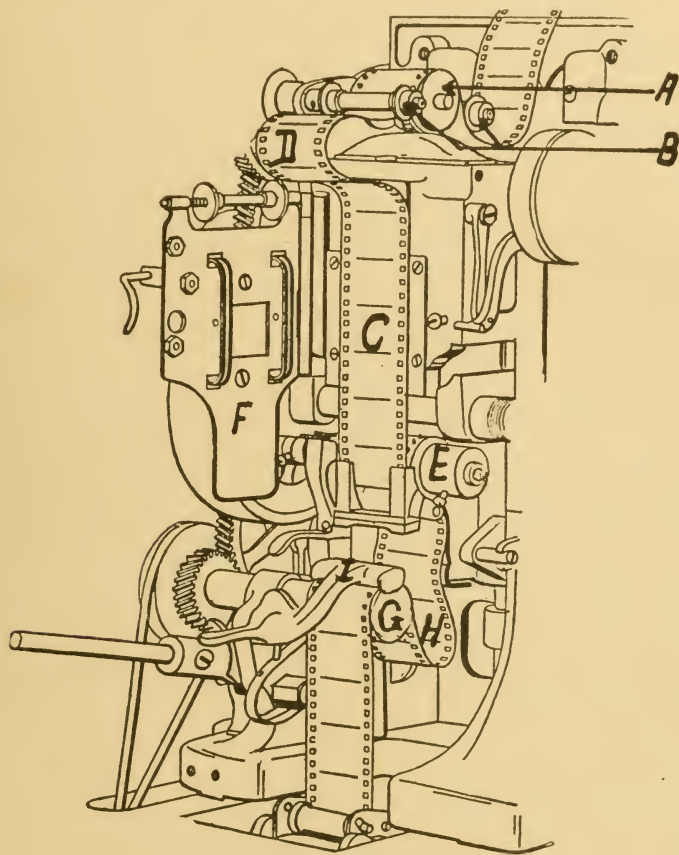

FIGURE 64
(44) The film is fed down to the aperture by upper sprocket A (Fig. 64) at a regular, unvarying rate of speed, namely, 90 feet per minute, or 18 inches per second. It is taken away by lower sprocket G, at the same rate of speed. Between these two sprockets it is moved intermittently by intermittent sprocket E—its